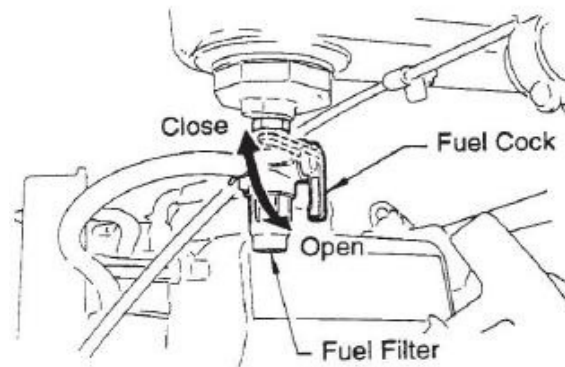

Fig 5
1. Open the fuel shut-off valve by moving the fuel cock lever to the OPEN position (Fig 5) then set the engine start/stop switch (Fig 5) to the START position.
2. Close the fuel shut-off valve by moving the fuel cock lever to the CLOSED position. See Figure 5.